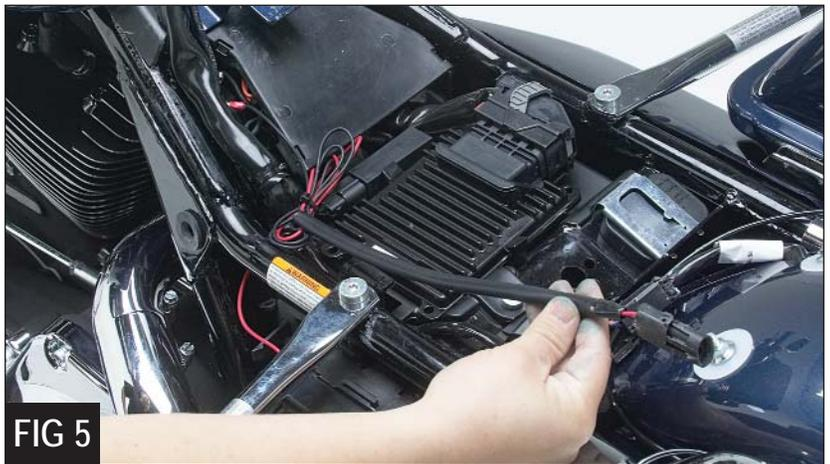

FIG 5
8. Wind up the wiring harness leaving approximately 10" of wiring to connect to the saddle. Tie the excess with the provided zip ties and secure neatly out of the way before mounting the seat to prevent potential damage. (*Figure 5*)